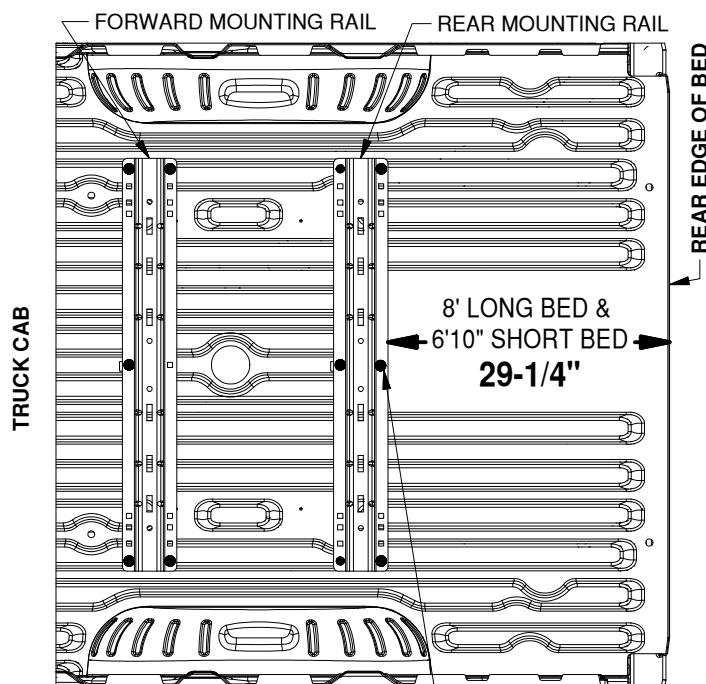

Figure B1: Detail view over bed, showing drill locations for the forward and rear bed rails.
- Layout the rear mounting rail.** Place a mounting rail onto the bed of the truck. Hook a tape measure over the rear edge of the bed (not on any part of the tailgate), measure the location for the mounting rail as shown in Figure B1. Next, center the mounting rail in the bed by measuring the distance on either side from the edge of the rail to the sides of wheel wells. The rail will be centered when both measurements on either side of the rail are the same.
- Mark hole locations.** While carefully ensuring the mounting rail does not move, use a center punch tool to mark the 6 drill locations on the rear rail. See Figure B1 for hole marking locations for this installation (forward rails will install on a later step). Once all 6 rear rail locations are clearly marked, move the bed rail out of the way and drill each location with an 1/8" drill bit.
2. **Drill forward mounting holes.** Using the same methods as used for the rear mounting rail mark, drill, check, and enlarge the holes for the forward mounting rail. Refer to "DRILL REAR MOUNTING HOLES" section, steps 2 through 4, on a previous page. Notice that the hole locations are slightly different than the rear rail, see Figure B1 (on the second page).